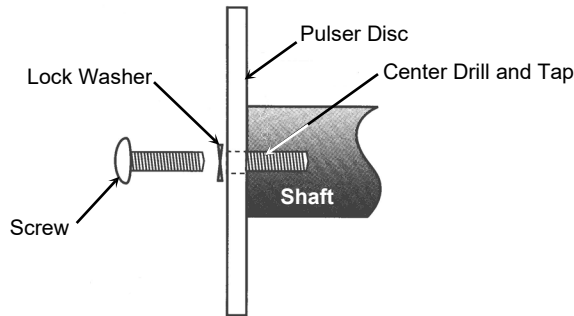

Figure 5: Pulser Disc and Shaft Assembly
3.	After drilling and tapping the shaft, apply Loctite® or a similar adhesive to the screw threads and mount the disc securely onto the end of the shaft. See Figure 5.